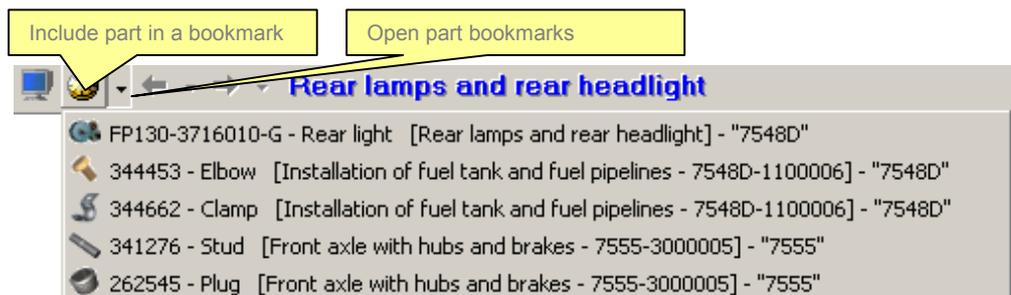

Fig. 19
- By forced inclusion of the part in a bookmark, by pressing “Include part in a book-mark” button (see Fig. 19)